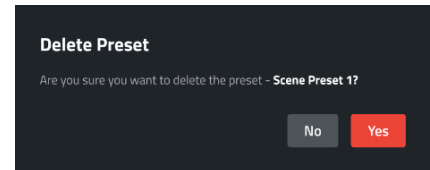

Figure 45: Delete Scene Preset
- 3) Once you click the DELETE button, a window will pop-up to ask for confirmation. See **Figure 45**.